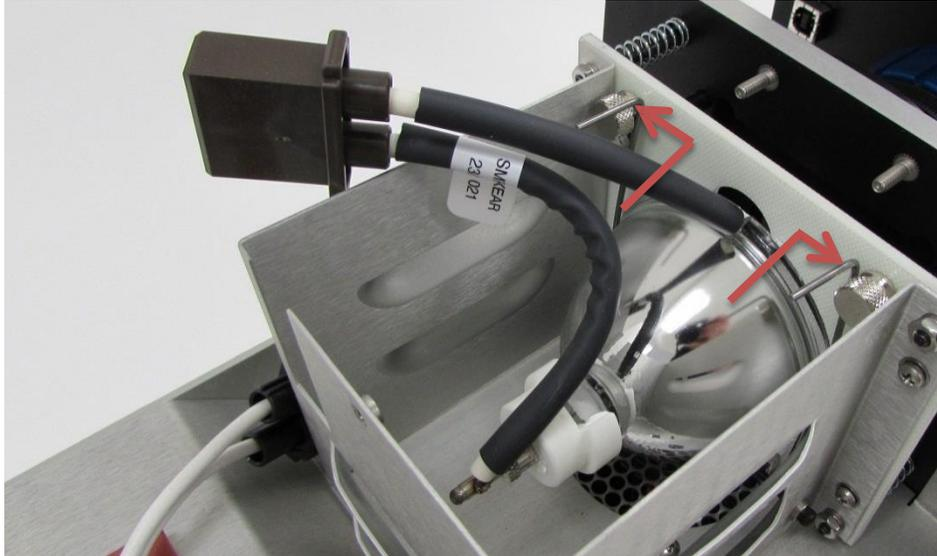

Figure 16: Secure Lamp
7. Secure the lamp in place by returning the lamp holder wires to their original location per Figure 16.